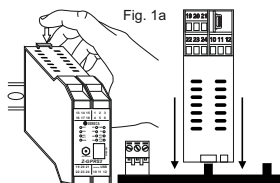

Fig. 1a
- 2) Insert the module rear IDC10 connector into a free slot of DIN rail accessory as you can see in fig 1a. (the insertion is one way only because the connectors are polarized).
- 3) To secure the module to the IEC EN 60715 DIN rail, tighten the two hooks on the side of the IDC10 rear connector as shown in fig. 1a.